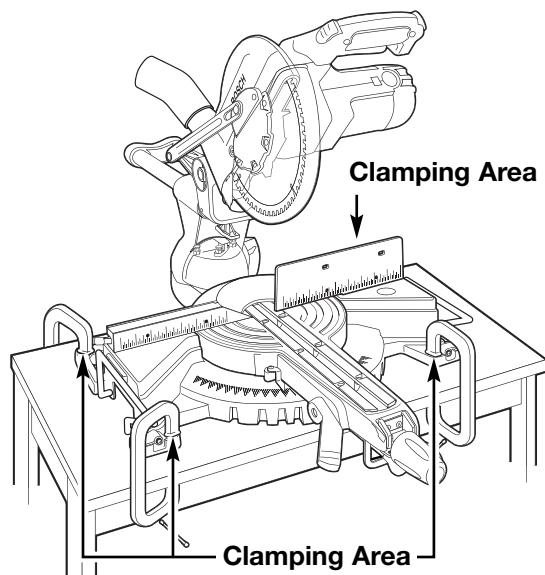

Figure 17. Portable Mounting Using Clamps
- Place a "C" clamp on each of the clamping areas and secure (Figure 17).